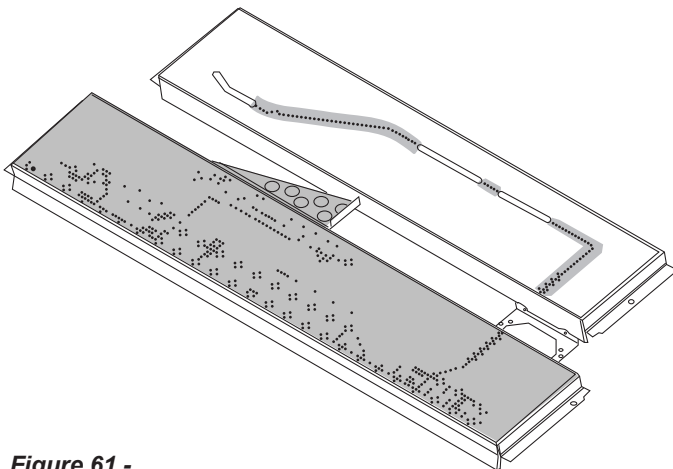

**Figure 61 -**
2. Distribute one layer of rock wool to cover the burner. *Figure 61*
The flames from the pilot should be visually checked as soon as the heater is installed and periodically during normal operation. **The pilot flame must always be present when the fireplace is in operation.** Figure 61. The pilot flame has four distinct flames, one engulfing the thermopile, one engulfing the thermocouple or sensor, and the remaining reaching to the main burners.